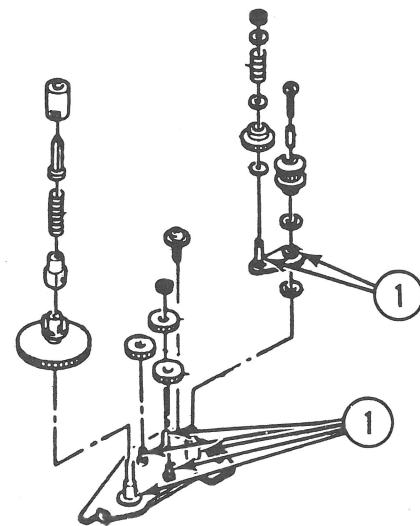

FIGURE 5
2. Clean the parts identified (Figure 5, #1) by wiping off any old oil and dirt with a lint-free cloth.
3. Lubricate each lubrication point identified (Figure 5, #1) with one drop of Floil G-488.